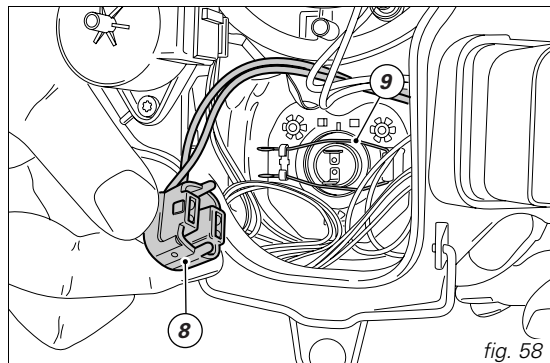

fig. 58
Disconnect the connector (8) from the high beam bulb (fig. 58). Press down then squeeze the ends of the spring (9) to release it from the bulb holder. Lift the spring (9).